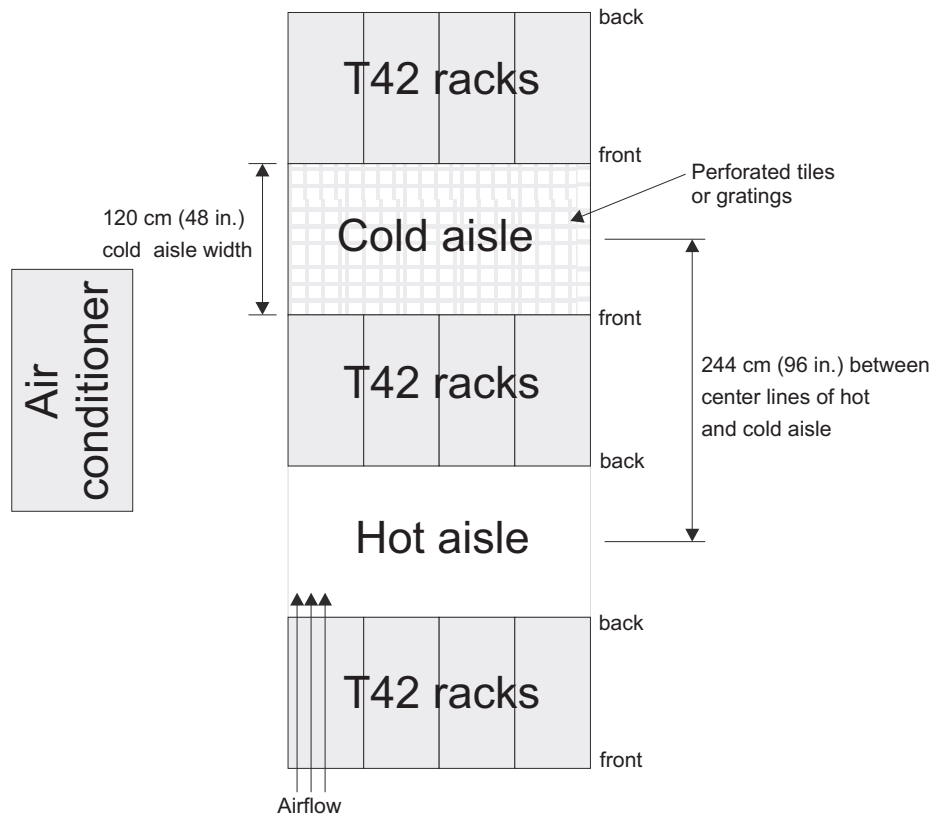

Figure 12. Example of cold aisle/hot aisle rack configuration
- Air enters at the front of the rack and leaves at the back. To prevent the air that is leaving the rack from entering the intake of another piece of equipment, you must position the racks in alternate rows, back-to-back and front-to-front. This arrangement is known as “cold aisle/hot aisle” and is shown in Figure 12 on page 16.
- Where racks are in rows front-to-front or back-to-back, gaps of at least 122 cm (48 in.) must separate the rows across the cold aisle (see Figure 12 on page 16).